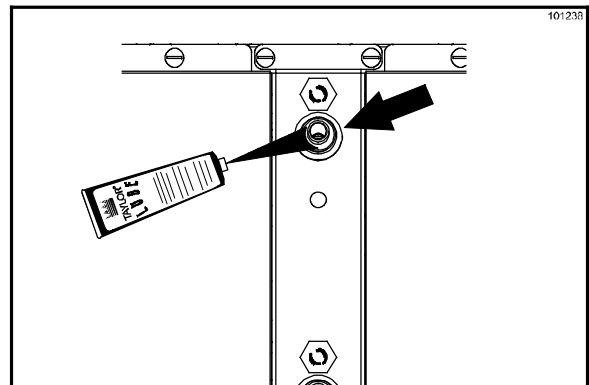

Figure 106
56. Lightly lubricate the inlet fittings, using an approved food grade lubricant (example: Taylor Lube). Make sure no lubricant enters the fittings. (See Figure 106.)